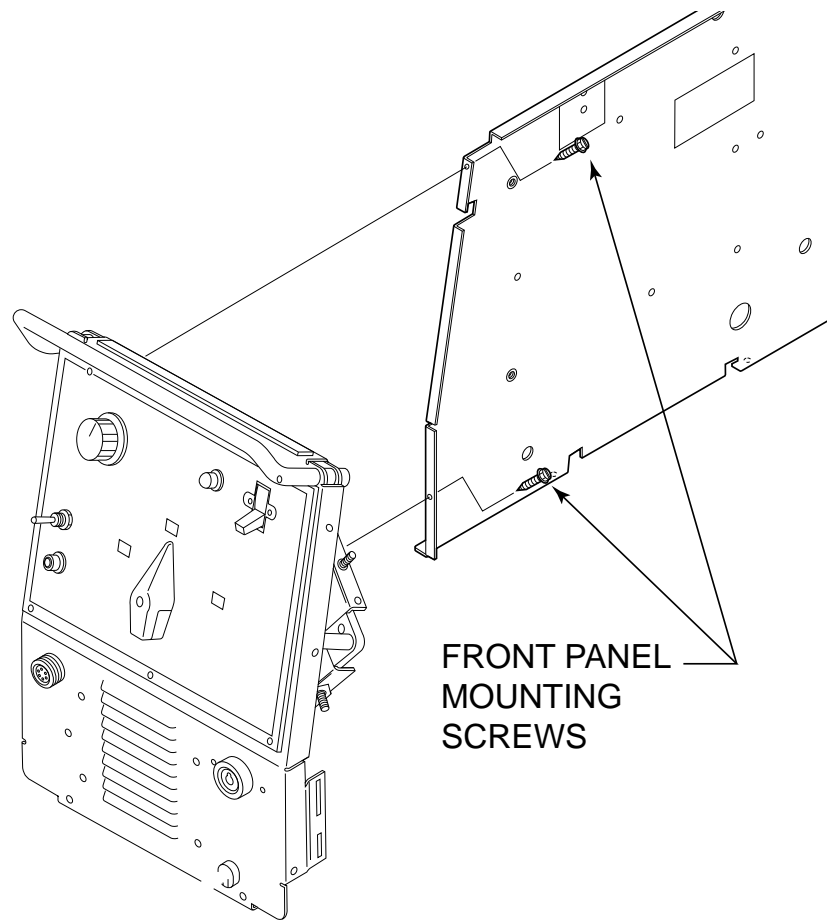

FIGURE F.8 INTERNAL PANEL MOUNTING SCREWS
9. Using the 5/16" nutdriver remove the two screws holding the internal divider panel to the front panel assembly. See **Figure F.8**.